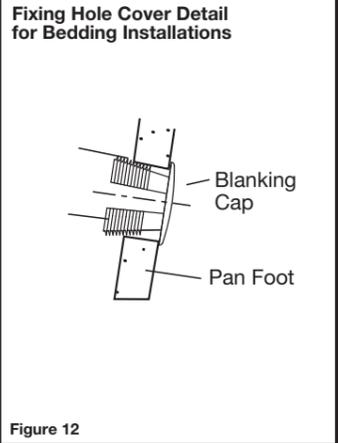

Figure 12
- 3- Locate and fix cover caps (supplied) into pan/closet fixing holes, as detailed in Fig. 12.